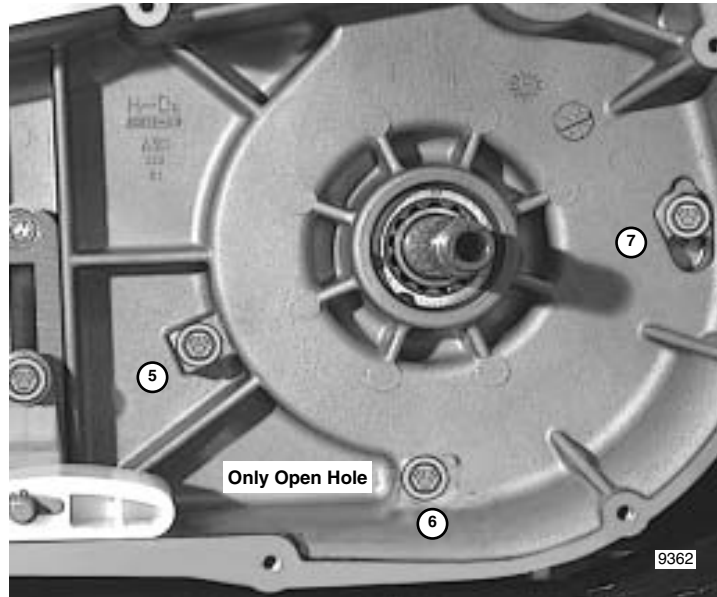

Figure 6-28. Primary Chaincase Screw Size and Torque Sequence
If the use of sealant is absolutely necessary to eliminate oil wicking past the primary chaincase bolts, use only a light film around the bolt holes on the mating surfaces. With one exception, remember that all bolts go into blind holes. The only open hole is located at the bottom of the transmission case. See right frame of Figure 6-28.
- a. See A in left frame of Figure 6-28. Start two bolts (1-3/4 inches with captive washers) to fasten outside edge of primary chaincase to front of crankcase.
- b. See B in left frame of Figure 6-28. From within the primary chaincase, start two bolts (1-3/4 inches with captive washers) to fasten primary chaincase to rear of crankcase.
- c. See right frame of Figure 6-28. From within the primary chaincase, start three bolts (3 inches with captive washers) to fasten primary chaincase to front and rear of transmission.
- d. Tighten the seven bolts to 15-19 ft-lbs (20.3-25.8 Nm) in the numerical sequence shown in Figure 6-28.